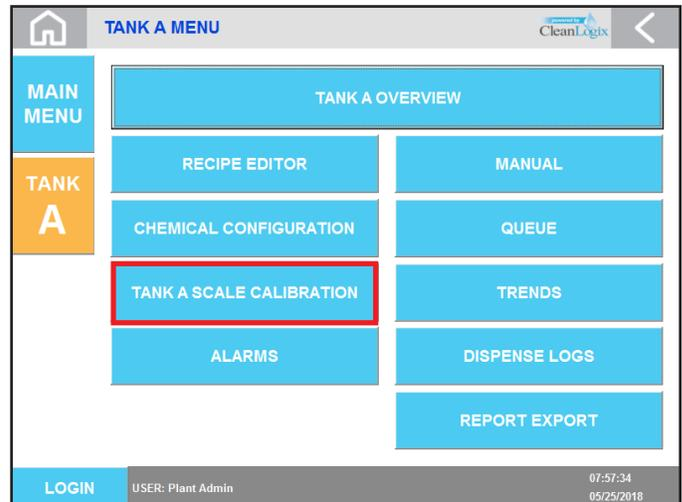

Figure 7.1: Tank A Menu
2. Click the Home icon and navigate to **TANK A > TANK A SCALE CALIBRATION** [Figure 7.1].